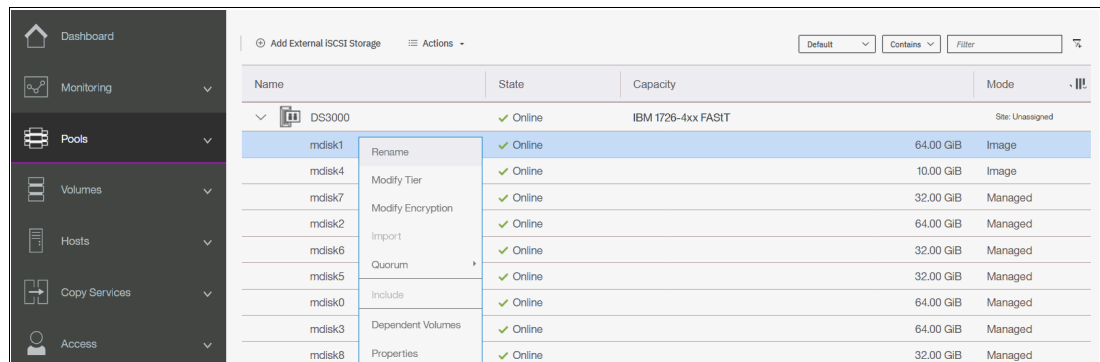

Figure 11-18 MDisk Actions menu in the External Storage window
- In the **External Storage** window, you can also right-click an **MDisk** (or use the Actions drop-down menu) to display the available options for a selected MDisk, as shown in Figure 11-18.